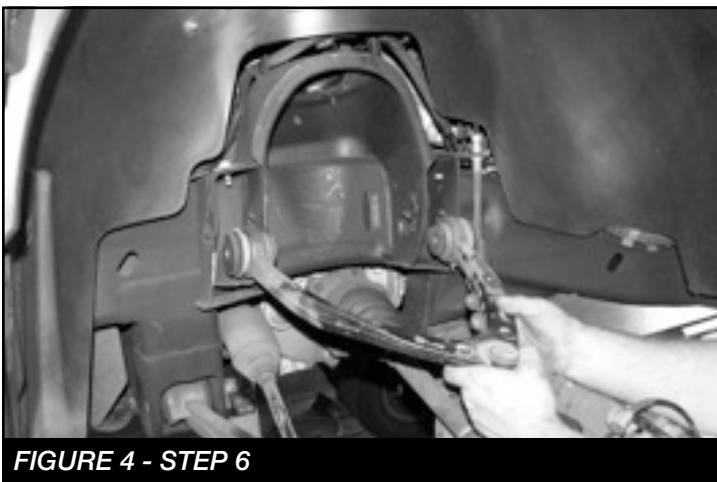

FIGURE 4 - STEP 6
6. Remove the upper control arm from the vehicle and save the factory hardware. **SEE FIGURE 4**